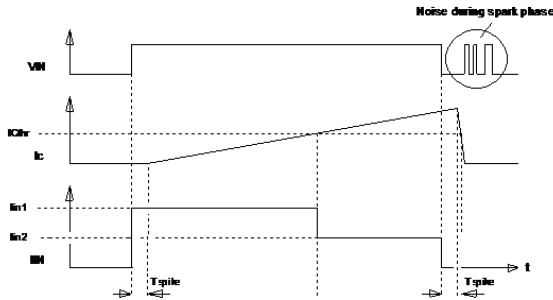

Figure 4: Bidirectional IN/IFL Diagnostic Pin
- The IN/IFL pin sinks constantly a current of I_{IN1} . When the input voltage is above V_{INH} and the collector current exceeds the I_{cTHR} threshold, the current flag is set by switching a current sink at the bidirectional IN/IFL pin to I_{IN2} (see Fig.4)